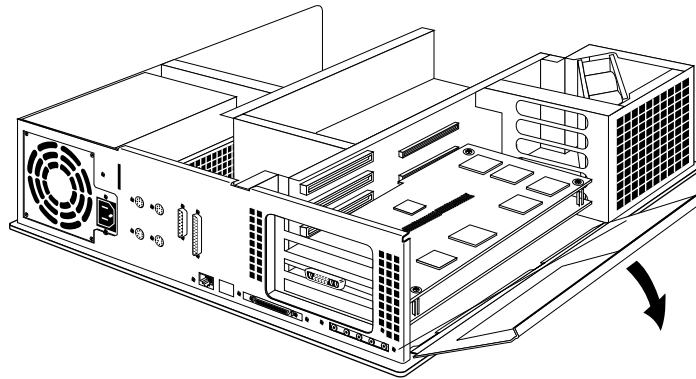

Figure 8-31 Lowering the Metal Panel in Front of the Expansion Slots
- Open the metal panel in front of the slots by pulling up on the panel and lowering it down, as shown in Figure 8-31.
Figure 8-31 shows an XZ graphics board set. Your system may have an XL (single) or Extreme (triple) graphics board set.